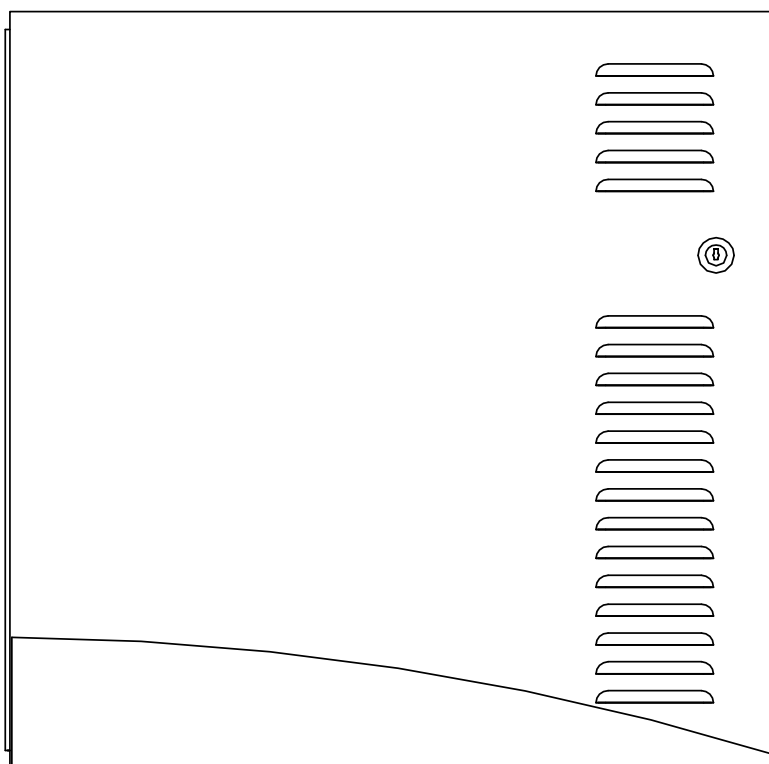

Figure 2.9.1 INX CAB-B Standard View
1. Prepare the mounting site by pre-drilling four (4), #10 screws mounted to the studs, using the dimensions shown in Figure 2.9.1.1. Use four (4), #10 screws.